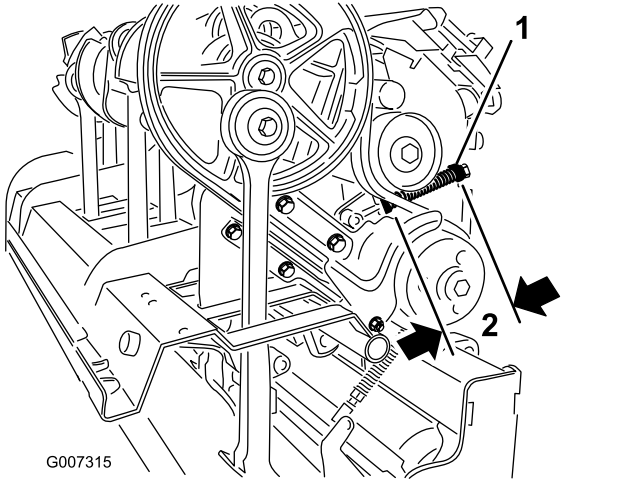

**Figure 34**
- A. Remove the rear coring head cover (Figure 34).
- B. Remove the pulley shield mounting bolts and remove the shield (Figure 34).